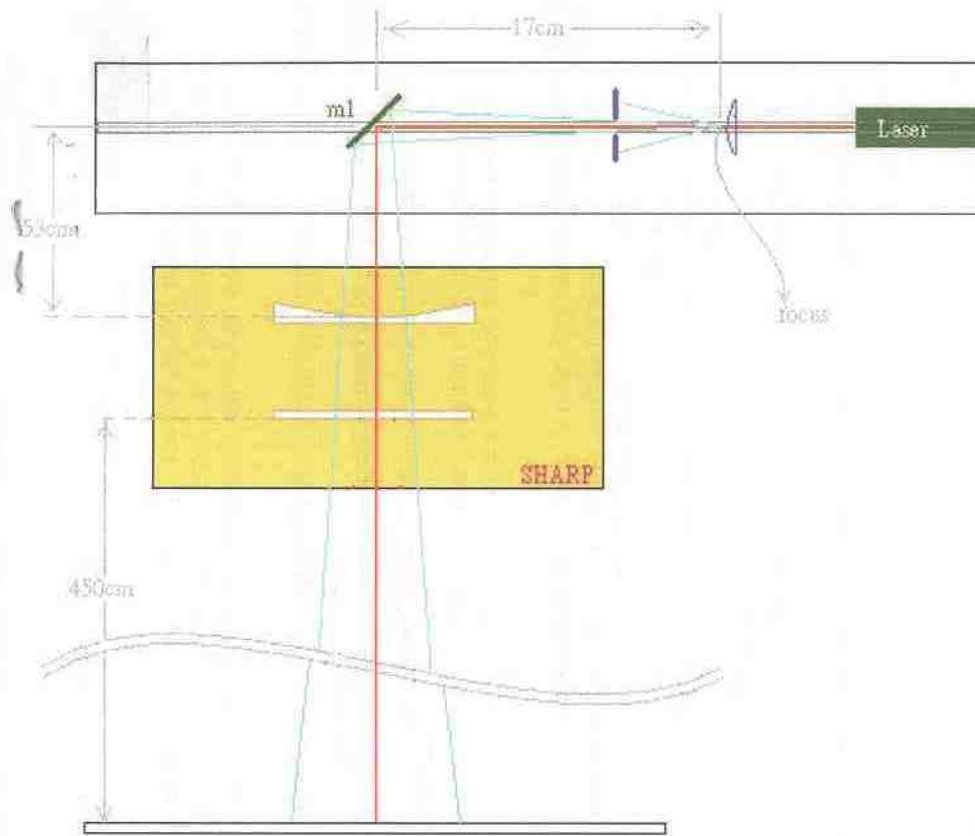

Fig.3
(10) Remove Box IV, insert the F#6 lens and the 5mm hole as Fig.3